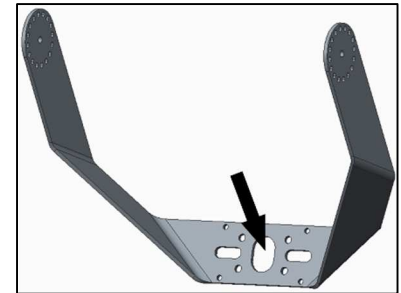

Fig. 1c
- Feed source wire through center oval opening of mounting bracket [Fig.1c]